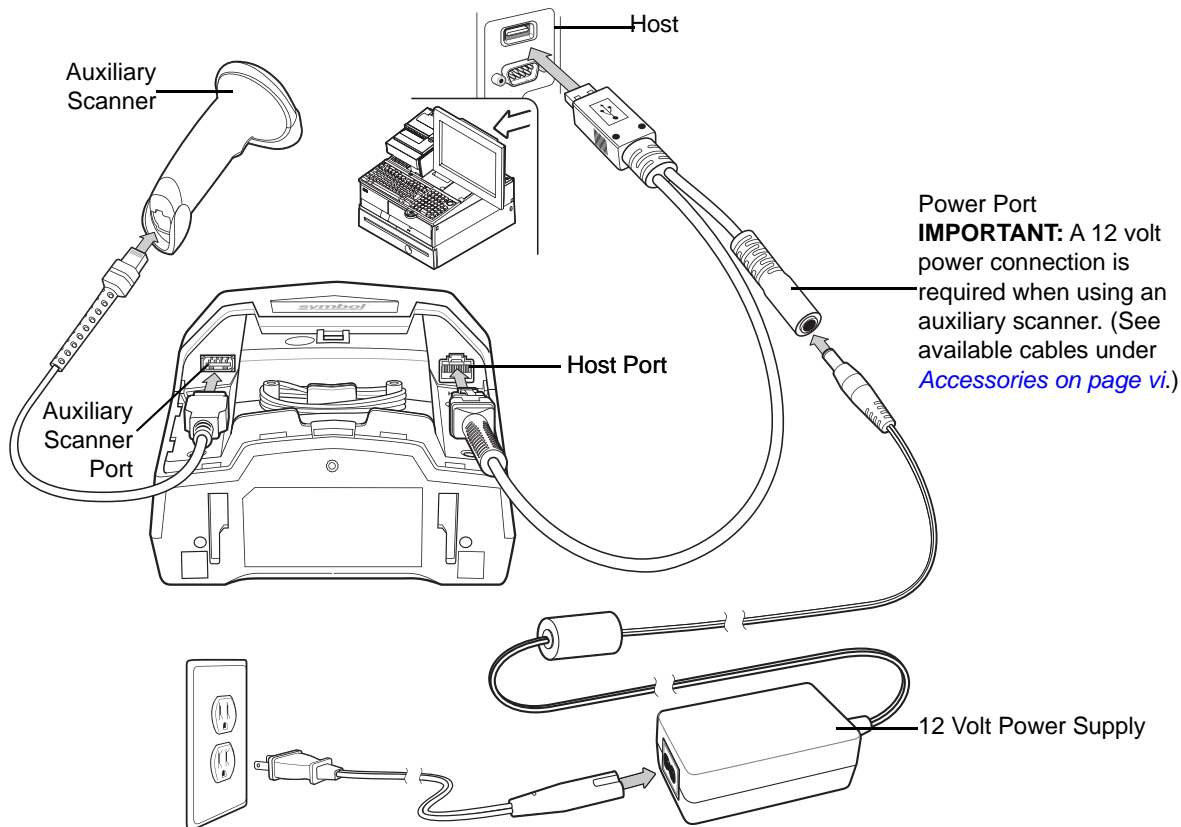

Figure 7-2 USB Connection With Optional Auxiliary Scanner - 12 Volt Power Supplied Externally
- b. Connect a 12 volt external power supply to the host cable as shown in Figure 7-2, or connect a 12 volt Power Plus host connector.